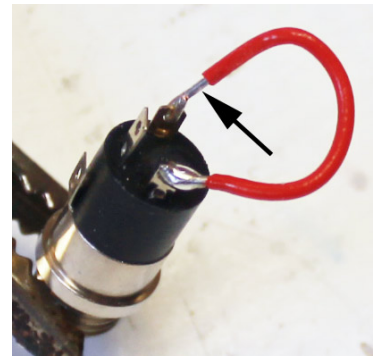

Figure 23
23. Remove the audio output jack from the face plate to make it easier to solder the wires to it. Prepare a short red solid wire (22 AWG) and solder it to the bottom lug as seen in Figure 23. The other end of the wire should be stripped with a little extra insulation removed so that some bare wire is present after you bend the wire and insert it into the top lug. The extra wire is where the arrow points. This is where you will attach another wire.
24. Find the red wire soldered to hole a4. Strip the other end and wrap it around the bare part of the wire in Figure 23, where the arrow is pointing. Then solder both wires to the lug on the left side as seen in Figure 24.